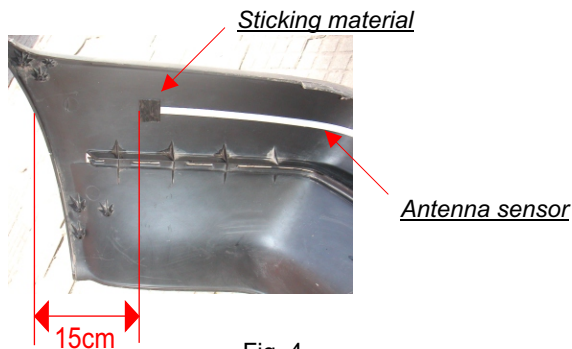

Fig. 4
1) It is advisable to start and finish the application of the antenna sensor tape et about 15 cm from the both end of the bumper (Fig. 4).